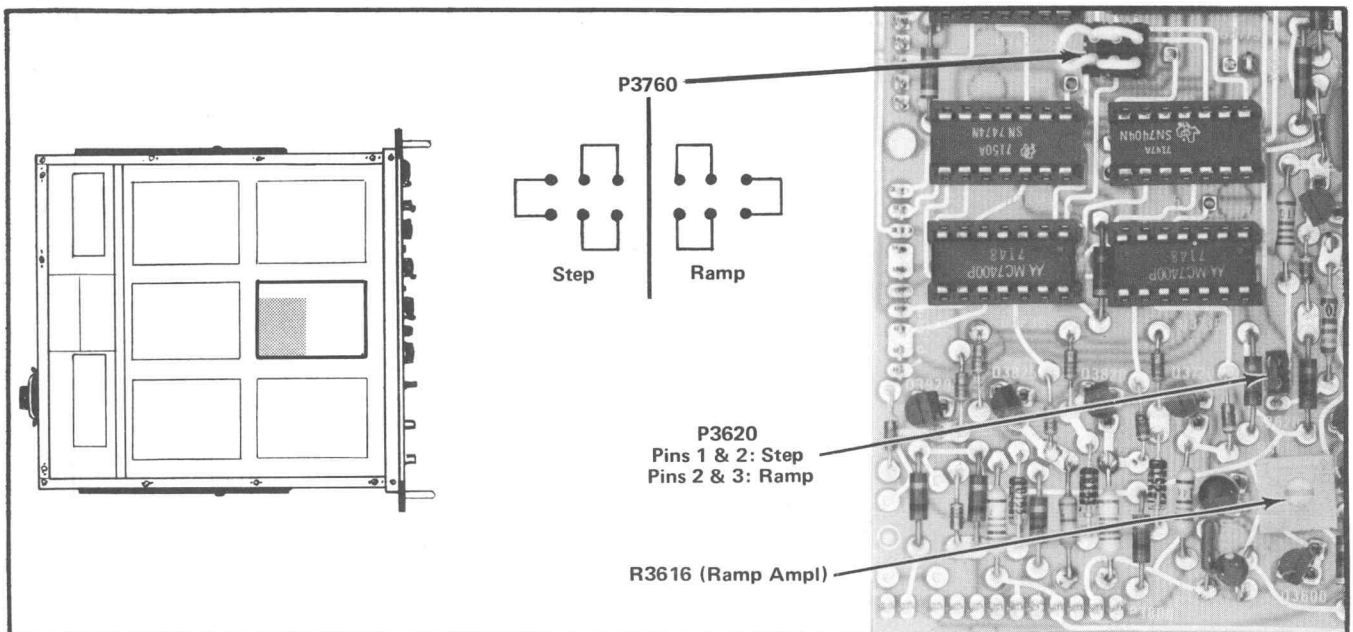

Fig. 2-11. APL, Staircase & Noise circuit board showing locations of P3620, P3760, and R3616; Line 17 and Line 330 Test Signal with Ramp.
As shipped from the factory, LINE 17 SIGNAL and LINE 330 SIGNAL each contain the 5 Step Staircase as a portion of the complete signal. To replace the steps portion with ramp, rotate P3760 180°, and change the connector on pins 1 and 2 of P3620 to pins 2 and 3. (P3620 and P3760 are located on the APL, Staircase, Noise circuit board, see Fig. 2-11.)
c. Adjust the Ramp Amplitude control, R3616, for a ramp amplitude of 700 mV as measured between the blanking level and ramp peak. (R3616 located on the APL, Staircase, Noise circuit board, see Fig. 2-11.)